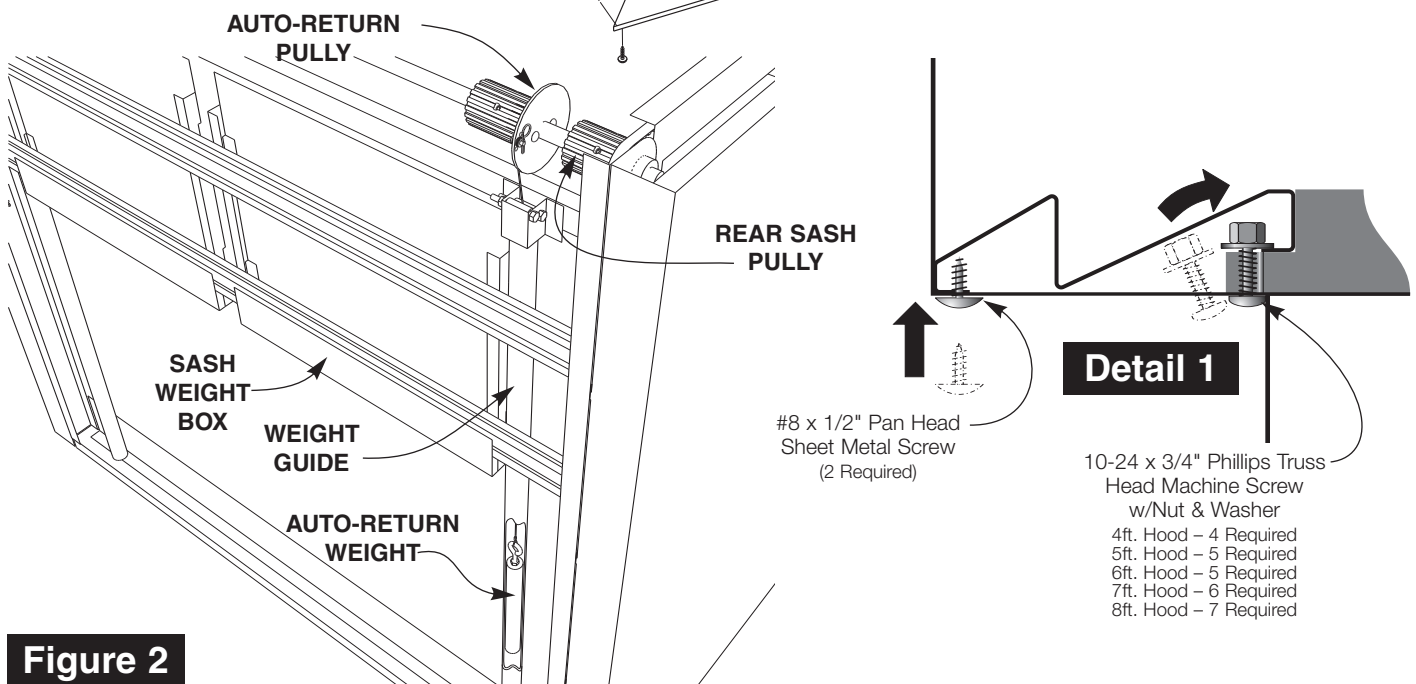

Figure 2
To level, loosen the two (2) set screws on one of the rear **Sash Pulleys** (see Figure 2), level sash, then retighten set screws.